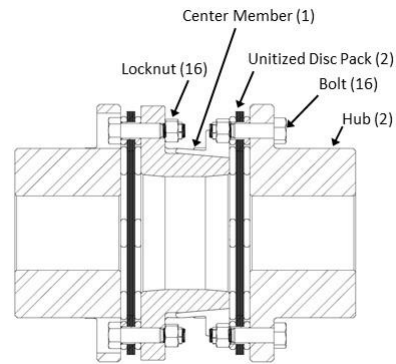

Figure 3: GA Model
- iii) Slide one unitized disc pack between the center member and the hub. Install four bolts through the hub bolt holes and unitized disc pack, and four bolts through the hub clearance holes, unitized disc pack, and center member bolt holes as shown in Figure 3. Install a locknut on each bolt and slightly tighten them. The disc pack, when installed, should look flat and parallel with the mating hub and center member flanges.